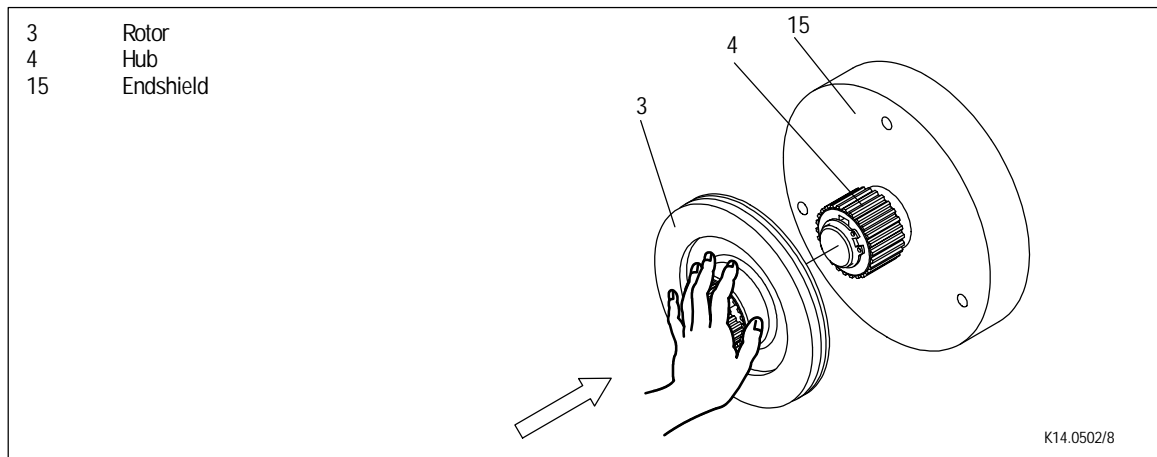

FIG 6 Assembly of the brake
1. Push the rotor (3) onto the hub (4) and check whether it can be moved by hand (FIG 6).